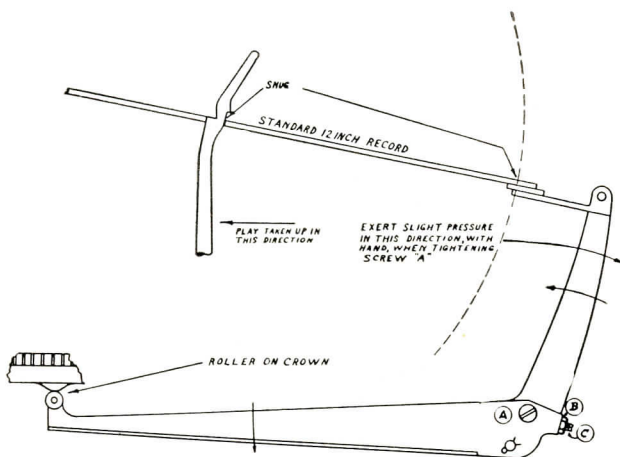

FIG. 5
A. *Test maximum push-off.* Manually start a change cycle and turn the turntable until the push-off mechanism roller is at the top of the push-off cam (on the master cam). This is the maximum "push" position. (FIG. 5.) Slip the Part No. 45-2959 push-off gauge over the center spindle with the 12" index towards the record shelves. Drop the gauge below the record shelf on the center spindle and set the end of the gauge on the 12" record shelf.
If the adjustments are very far out it is advisable to reset the push-off arm assembly by setting the 12" record shelf cams in neutral and resetting the forward shelf motion adjustment screw (See "C", Fig. 5), so that the gauge fits snugly against the record shelf cams and the center spindle. Be sure that the adjustment you
make holds after the locking screw B, in Fig. 5, is tightened.